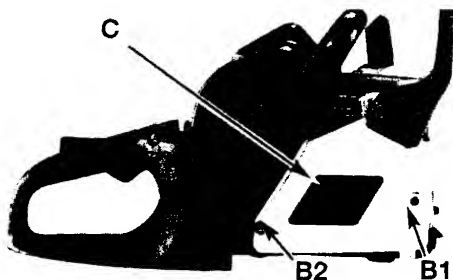

Fig. 18
2. Remove the bar retaining nut (B1) and the screw (B2) at rear of clutch cover (C). Remove clutch cover (C) by pulling straight out, some force may be required (Fig. 18).